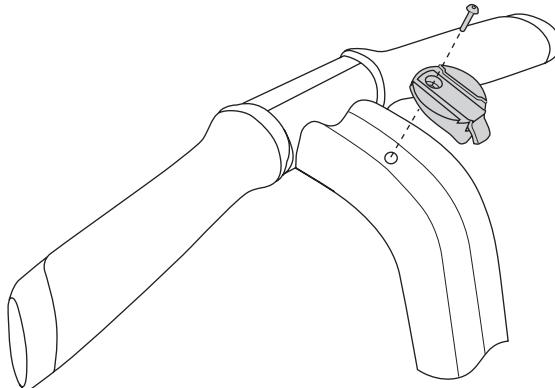

Figure 44. Installing or Removing the InfoKey Controller Dock
2. Place the InfoKey Controller Dock against the upper LeanSteer Frame with the Release Tab oriented at the bottom, as shown in **Figure 44**.